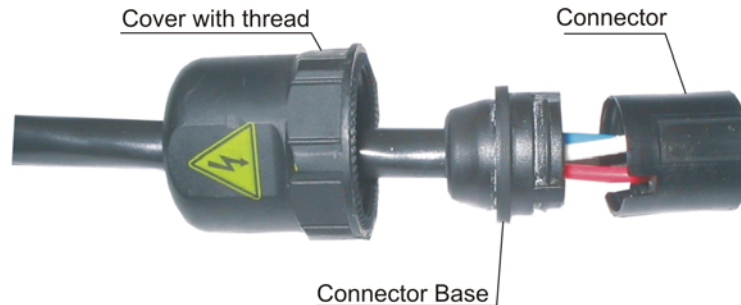

Fig. 1.13 –Hall Sensor cable and its accessories
3. Pull the cable connector base, to release it from the block connector, according to figures 1.13 and 1.14.